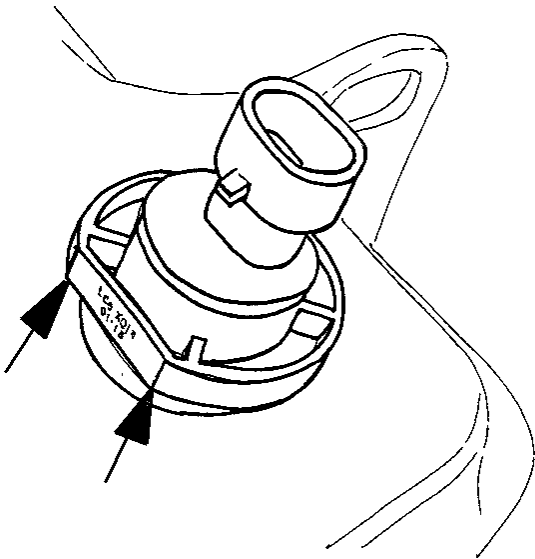
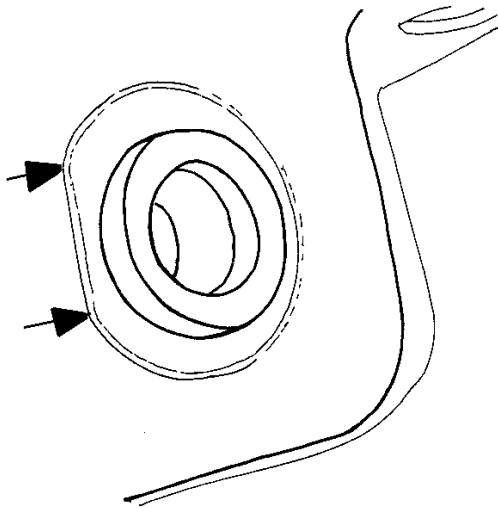

Figure 5 Flat Area on Sensor is Between Arrows
Figure 6 Flat Line Between Arrows Molded on Washer Reservoir
- 9. Install the fluid level sensor into the new washer reservoir. The sensor must be oriented so that the flat on the sensor (Figure 5) aligns with the flat line molded on the washer reservoir (Figure 6).